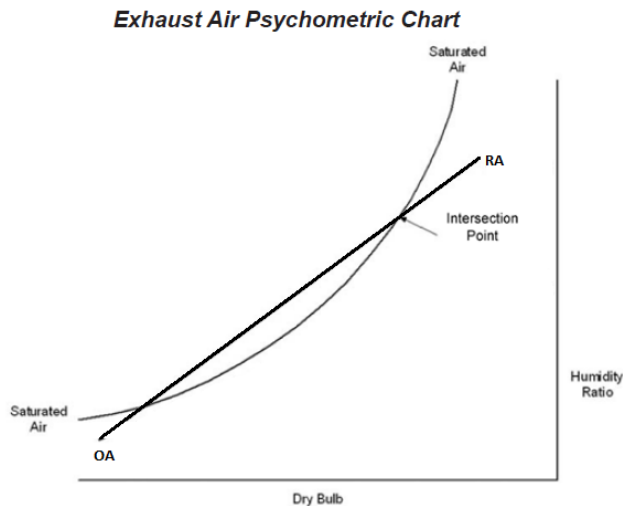

Figure 1: Exhaust Air Temperature Intersection Point
- Frost Prevention Control (selectable option) – The unit will monitor return air temperature and humidity, outside air temperature, and exhaust air temperature. Assuming an outdoor air relative humidity of 95% the unit will calculate the point at which condensate will develop in the exhaust air3 (see the intersection point in figure 1 below). When the exhaust air reaches this temperature the wheel will begin to start/stop (no VFD is included) or modulate (VFD is included) to reduce the effectiveness of the wheel and avoid frost buildup. This allows the wheel to remain on at these frost prevention times and still recover some energy.